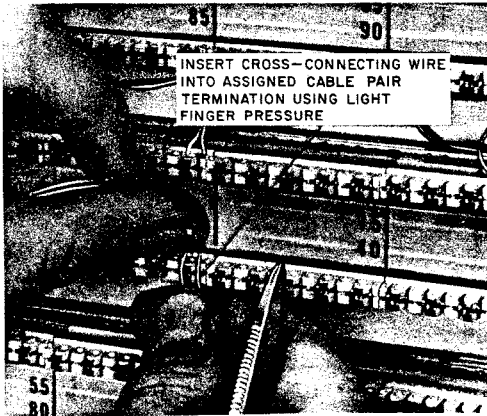

Fig. 18—Inserting Cross-Connecting Wire
6.01 Insert cross-connecting wire (24-gauge plastic insulated) into the connecting block as shown in Fig. 18. Light finger pressure is sufficient to temporarily retain the cross-connecting wire in its proper location.